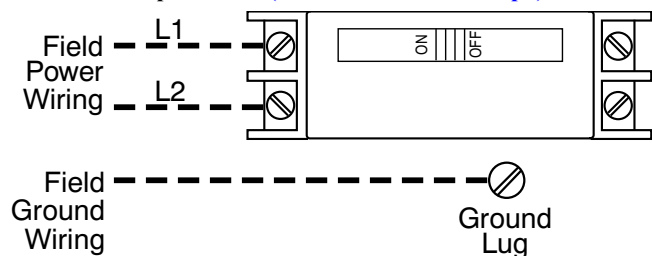
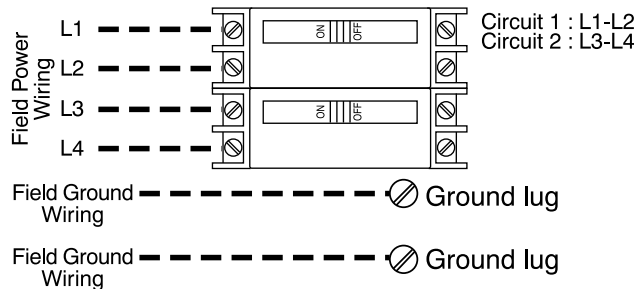

**Fig. 8 – 5, 8 10 kW Circuit Breaker and Disconnect Heaters**
**Fig. 10 – 15 and 20 kW Circuit Breaker Heaters**
2. Circuit breaker heaters: See Fig. 8 and Fig. 10.